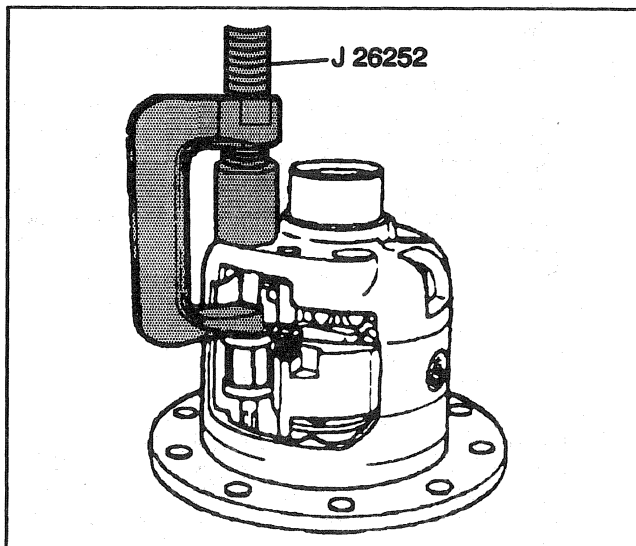

Figure 2—Removing the Governor Bushings
1. Governor bushing using J 26252 (Figure 2).